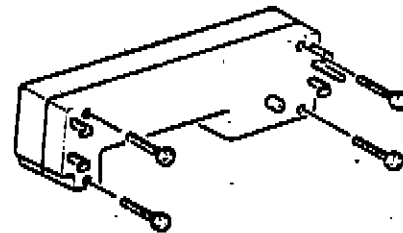

Figure 3-2. Opening the Battery Pack
Refer to Figures 3-2 and 3-3 for the following steps.
2. Open the battery pack by removing the four screws, as shown in Figure 3-2.